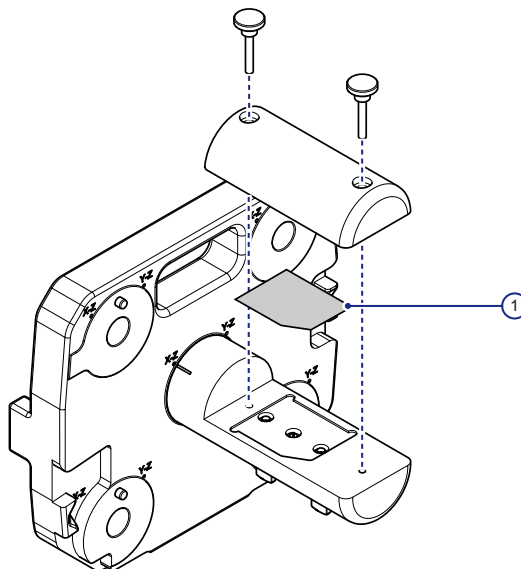

Figure 1.24 Placing the film in the housing
- 4 Place the film (1) in the Film Holder Tool housing, see Figure 1.24